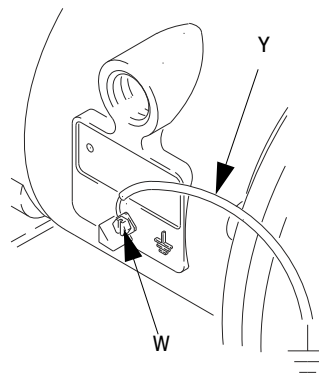

FIG. 1
- *Pump:* Connect a ground wire and clamp as shown in Fig. 1. Loosen the grounding screw (W). Insert one end of a 12 ga (1.5 mm2) minimum ground wire (Y) behind the grounding screw and tighten the screw securely. Connect the clamp end of the ground wire to a true earth ground. Order Part No. 238909 Ground Wire and Clamp.